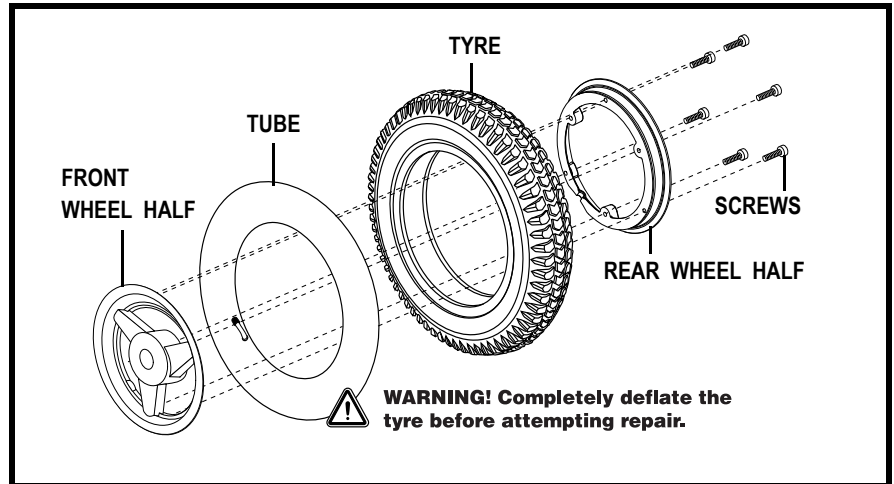

Figure 27. Drive Wheel Disassembly
6. Remove the screws from the rim assembly and separate the front and rear rim. See figure 27.